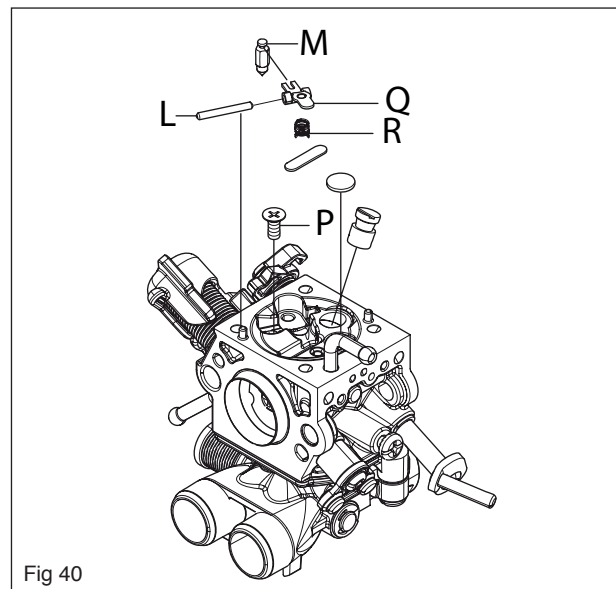

Fig 40
5. Assemble needle valve M with lever arm Q, shaft L and spring R, and tighten screw P. (Fit the expansion washer). See figure 40.